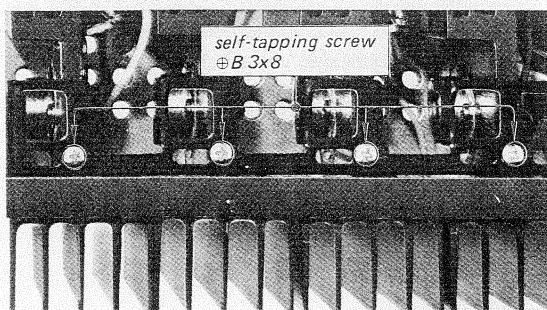

Fig. 2-7 Top heat sink removal
2. Remove the four self-tapping screws ($\oplus B 3 \times 8$) securing the top heat-sink bracket as shown in Fig. 2-7.